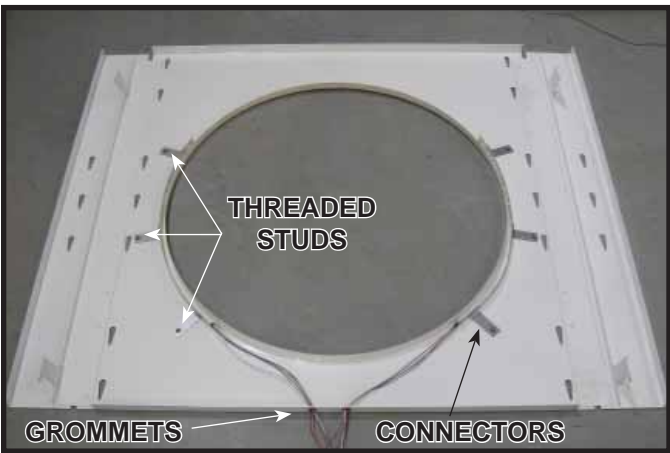

Figure 14.2 LED Installation
- Install the two grommets into the bottom center of the SOL-BASE decorative front. See Figure 14.2.
- Attach the LED strips to the back of the decorative front by placing the brackets over the threaded studs and then tightening the 3/8 inch nuts, supplied with the LED's, onto the threaded studs. See Figure 14.2.
- Thread one of the ends of the wire assembly that has a small, white plug through one of the grommets and then plug it into the LED strip closest to that grommet. See Figure 14.2.
- Thread the other end of the wire assembly that has a small, white plug through the other grommet and plug it into the remaining LED strip. See Figure 14.2.